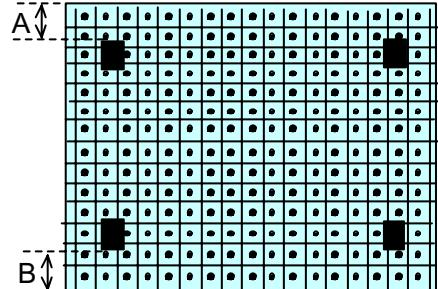

Fig.1-10 PAL CONVERGENCE
2. Adjust and equalize the distances indicated with A (the upper end to ■ mark) and B (the lower end to ■ mark). (Fig. 1-10)